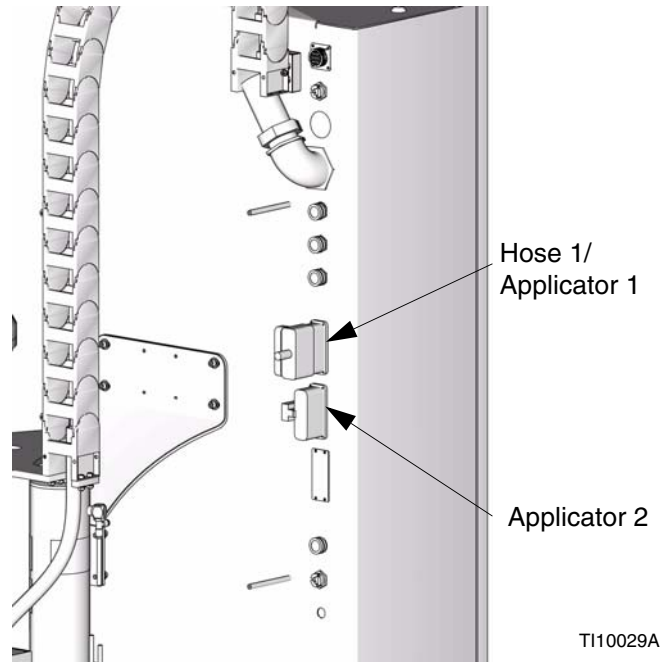

FIG. 4: Rear View of Electrical Control Box
1. Securely tighten the 16-pin electrical connectors on long heated hose leads into 16-socket receptacles located on the back of the electrical control panel. See FIG. 4.